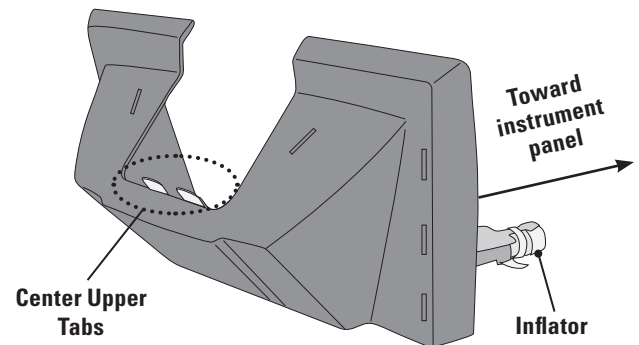
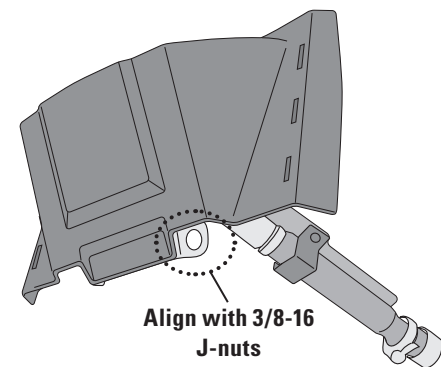

Figure 4
Figure 5
3. Position the driver knee airbag assembly with the inflator located at the bottom right corner and positioned toward the instrument panel (**Figure 4**).
4. Interlock the center upper tabs (**Figure 4**) to the existing steering column bracketry; assuring that the tabs of the airbag assembly are located behind the steering column brackets. Align the two holes at the bottom of the airbag assembly (**Figure 5**) with the two 3/8-16 J-nuts which are attached to the steering column bracketry.